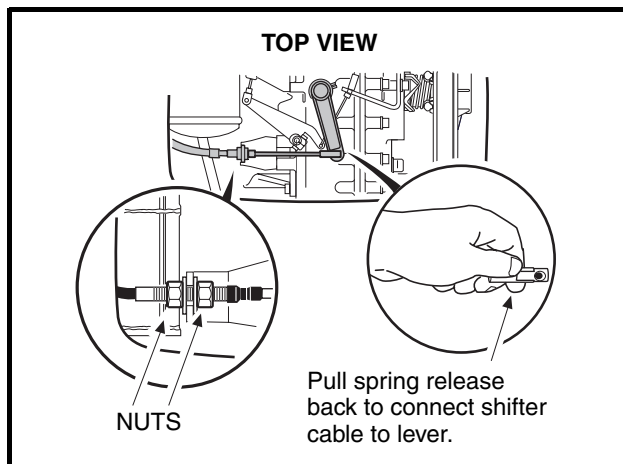

Figure 16-46 Connect Shifter Cable
- 22.4. Install the nut (3), washer (4), and bolt (7) on the Forward/Reverse shifter lever and tighten to 23 in lb (4.1 N·m).
23. Position the shifter cable in the shifter cable mounting bracket on the transaxle and tighten the mounting nuts to 22 ft-lb (29.8 N·m). Connect shifter cable rod end to the shifter arm (**Figure 16-46, Page 16-17**).